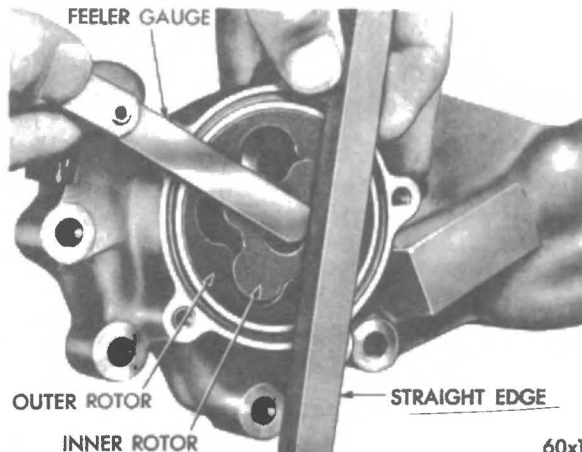

Fig. 6 - Measuring clearance over rotors. 60x135
(5) Slide outer rotor and inner rotor into pump body and place a straight edge across the face between the bolt holes (Fig. 6).
(6) If a feeler gauge of more than .004" can be inserted between rotors and straight edge, replace pump body.